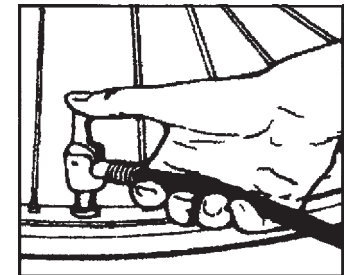

Fig. 1
1. With thumb latch Quick Connector open, place securely onto the tire valve stem (Fig. 1).